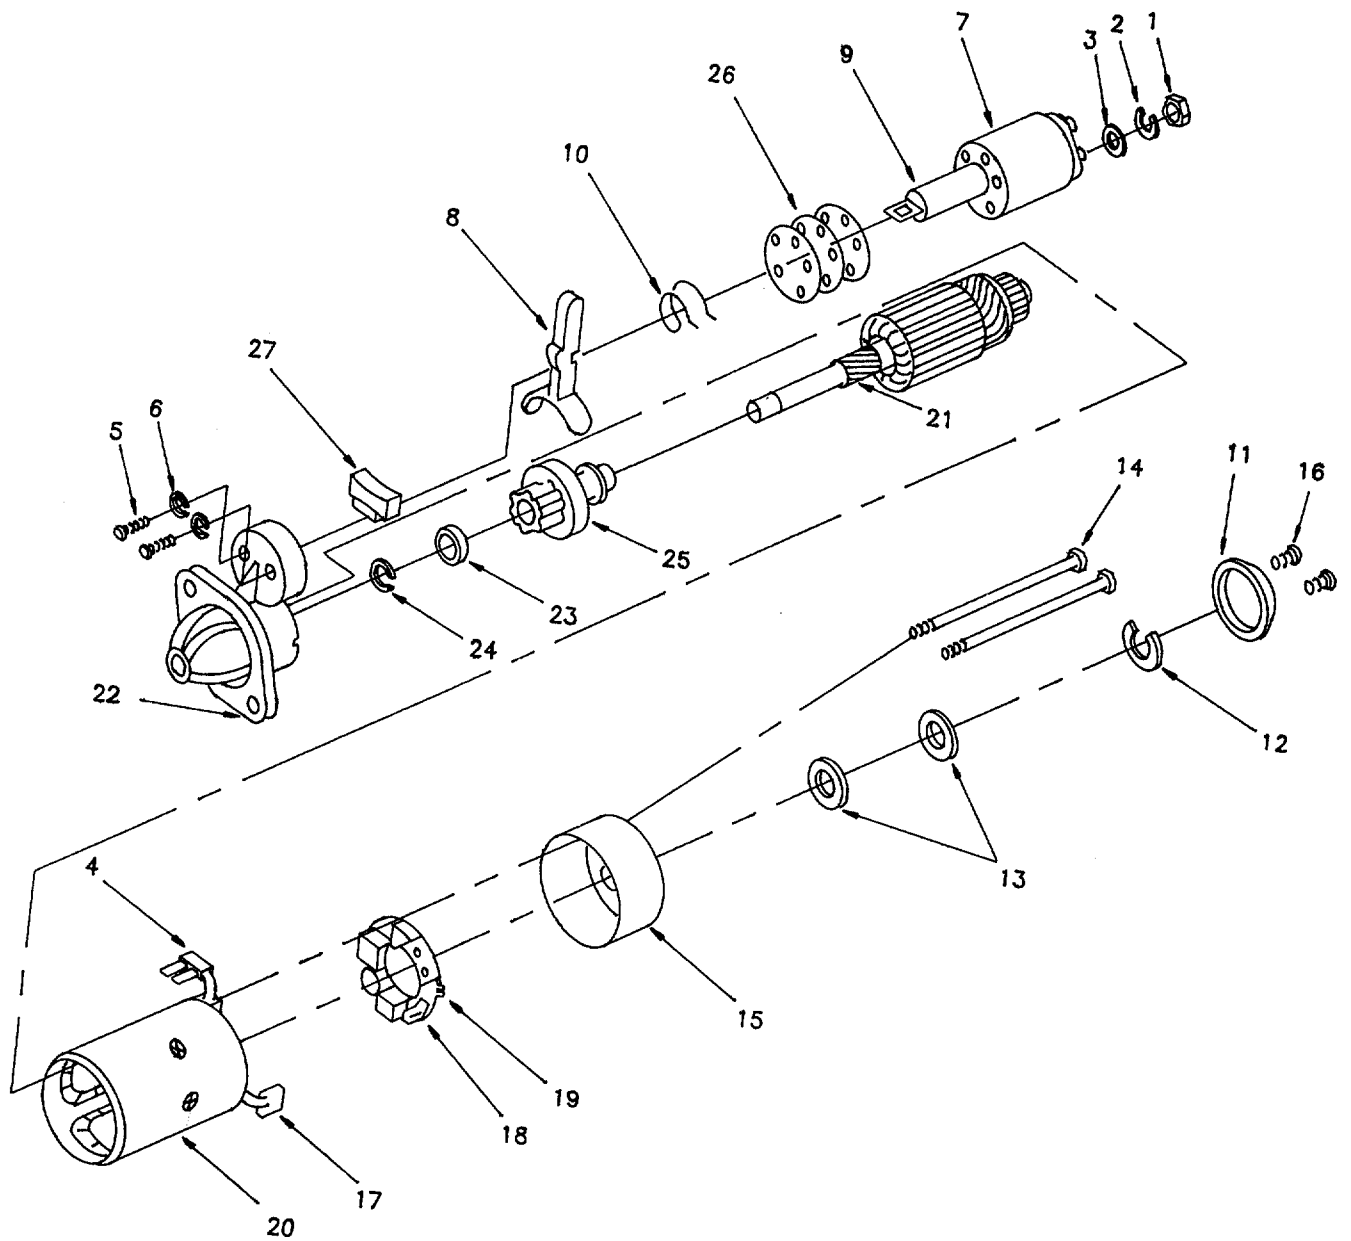

Figure 5-1. Engine Starter Motor.
- (1) Loosen nut (1, Figure 5-1), lock washer (2), and flat washer (3).
- (2) Disconnect electrical coil wire (4) from relay-solenoid (7).
- (3) Remove cap screws (5) and lock washers (6).
- (4) Remove relay-solenoid (7).
- (5) Separate shifter fork (8) from plunger (9).
- (6) Remove torsion spring (10) from relay-solenoid (7).
- (7) Remove dust cover (11) of dust cover kit.
- (8) Remove E-ring (12) and thrust washer set (13).
- (9) Remove machine bolts (14) holding rear cover (15), and machine screws (16).
- (10) Remove rear cover (15).
- (1) Install pinion assembly (25, Figure 5-1) to motor armature (21).
- (2) Install pinion stopper set (23) on motor armature (21).
- (3) Install pinion stopper (24).
- (4) Insert motor armature (21) and pinion assembly (25) into gear housing assembly (22).
- (5) Insert shifter fork (8) into pinion assembly (25) and insert dust seal (27) of dust cover kit into gear housing assembly (22).
- (6) Insert motor armature (21) and gear housing assembly (22) into electrical coil (20).